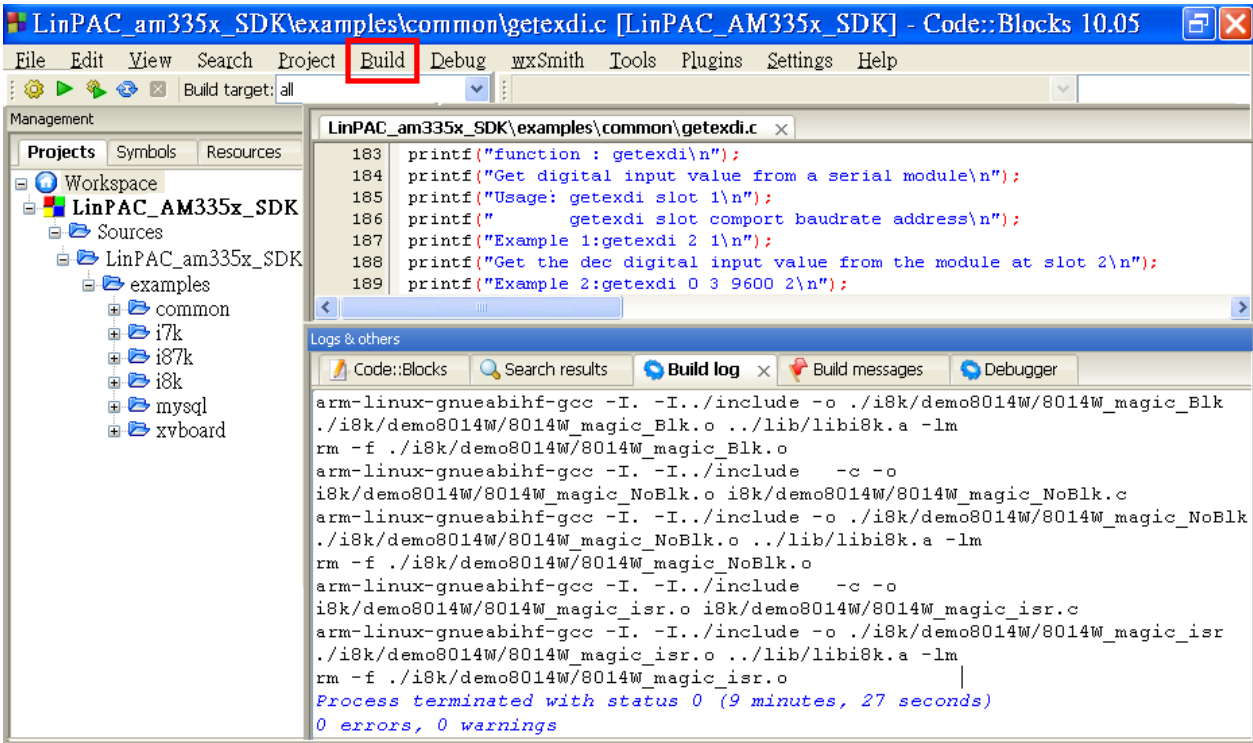

Fig. 3-21
- Click **Build** options, and it will compile the LinPAC\_AM335x project completely (refer to Fig.3-21).